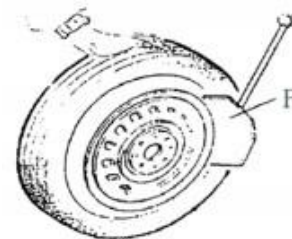

Figure 5
1. Ensure to exhaust the air in the tyre completely, place the tyre against the rubber buffer (S).
2. Bring the paddle against the bead about 10 mm from the edge of the rim shown as figure 5.
3. Tread bead breaker pedal (U) to push paddle into tyre.